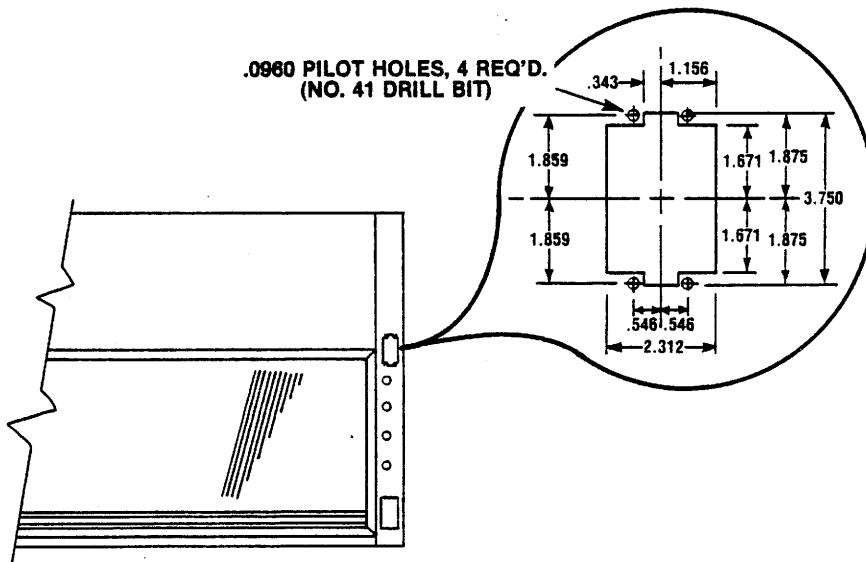

FIGURE 1
1. Make cutout in corner post of fume hood at desired height, see Figure 1.